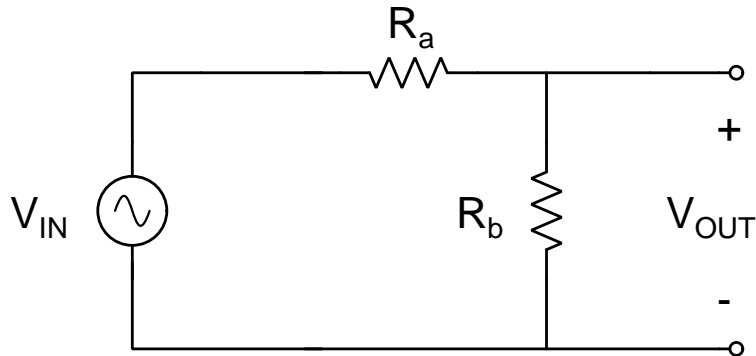

Figure 1: The circuit under test (CUT) is an ideal resistor divider circuit.
In this lab you are to determine the voltage ratio, V_{OUT}/V_{IN} , produced by the voltage divider with resistors R_a and R_b shown in Figure 1.
2. For each of the three pairs of resistors, place two resistors with the same value on the bread-board to make a series circuit as shown in Figure 1. If the resistors have slightly different values, make sure you keep track of which resistor is which.